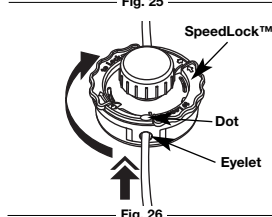

Fig. 26
5. While holding the outer spool in place, pull the SpeedLock™ away from the outer spool and twist the SpeedLock™ clockwise until the dot is in line with the eyelet or until it stops (Fig. 26).